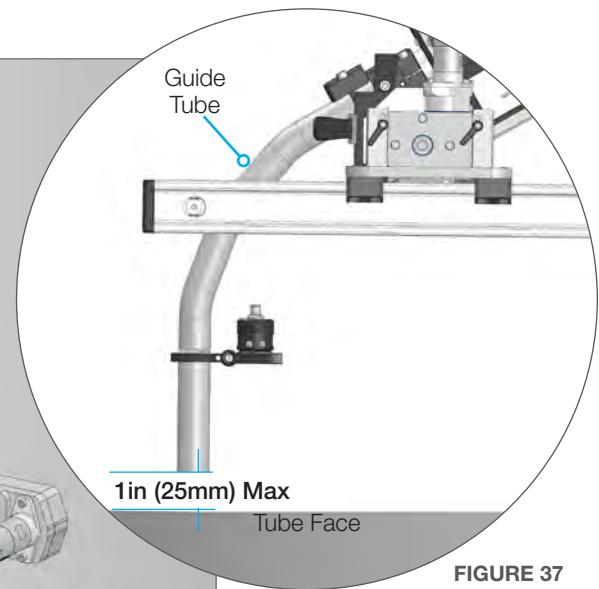

FIGURE 37
22. The end of the Guide tube should be 1in (25mm) or less, from the Tube Face. This is to avoid dragging on the surface of the Tube Face. **(Figure 37)**